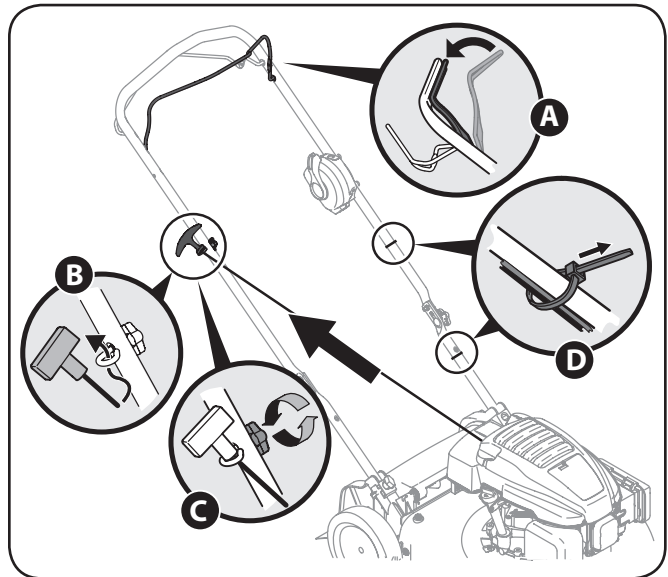

Figure 3-6
4. The rope guide is attached to the right side of the upper handle. Loosen the wing knob which secures the rope guide. See Figure 3-6.
- b. Slowly pull starter rope handle from engine and slip starter rope into the rope guide. See Figure 3-6.